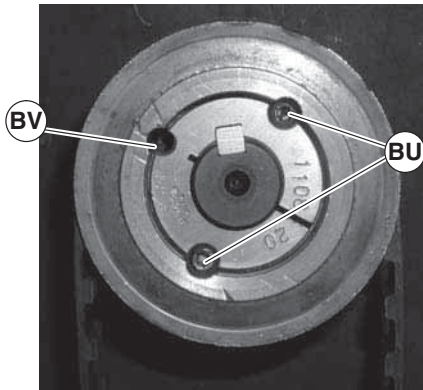

Figure 61
- e. Remove four (4) M5 mounting screws (Figure 61, item BW) and two (2) M8 mounting screws (BX).
- f. Remove gearmotor and mounting plate assembly (Figure 61, item BY).